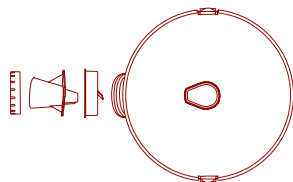

Figure 7
- Turn the Shaving Blade Assembly Nut counter clockwise (to the left), remove the Shaving Blade Assembly, rinse and dry prior to storage in a safe place (Figure 7).